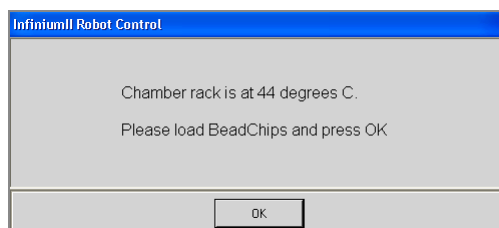

Figure 161 Load BeadChips Message
4. When prompted (Figure 161), load the BeadChips click **OK**.